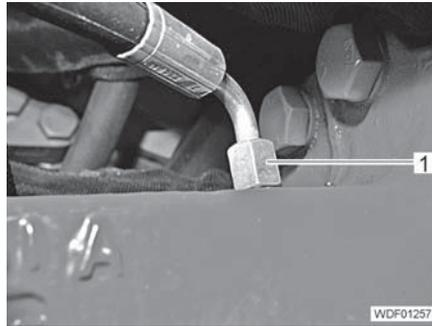

Fig. 251 Hydraulic line of the differential lock
- Unscrew and close off the hydraulic line of the differential lock (Fig. 251,1).